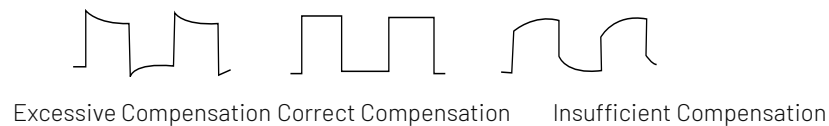

Figure 2 Compensating Calibration of Probe
- View the displayed waveform, as shown in Figure 2.